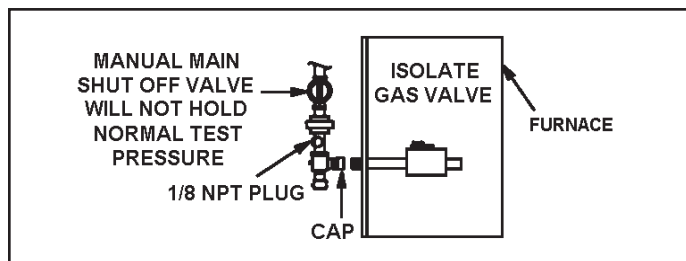

Figure 19.
5. A 1/8" N.P.T. plugged tap or pressure post is located on the gas valve to facilitate test gauge connection. See Figure 19.
When testing pressure of gas lines, gas valve must be disconnected and isolated. See Figure 19. Gas valves can be damaged if subjected to pressures greater than 1/2 psig (3.48 kPa, 14 inches w.c.).